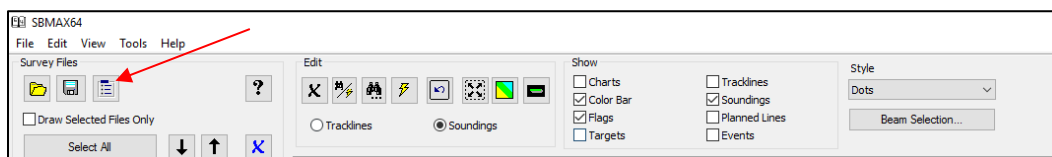
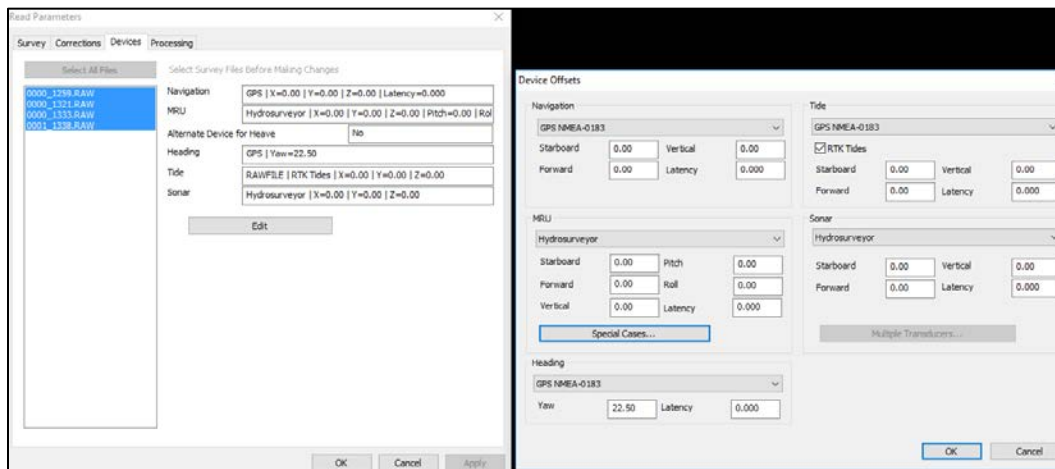
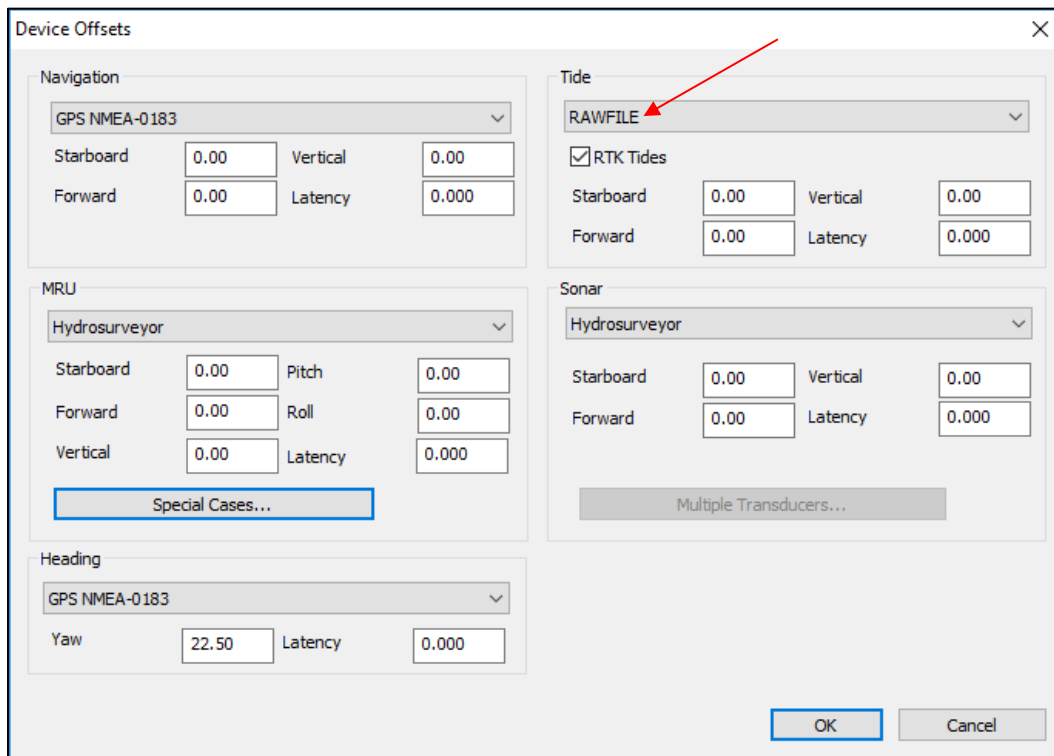

Figure 15.—Read Parameters icon (blue bullet list) in SBMAX64 main menu window.
Figure 18.—Device Offsets popup window via the Devices tab in the Read Parameters window.
Figure 20.—RAWFILE selection under Tide in the Device Offsets popup window.
In the SBMAX64 main menu window, click on the blue bullet list icon under Survey Files to access the Read Parameters window (figure 15).
- Under the **Devices** tab in the Read Parameters window, click “Edit.” In the Device Offsets popup window, set Navigation to the GPS device and both MRU and Sonar to the echosounder. Under Heading, input in combination of the SonTek M9 rotation and magnetic declination for the Yaw offset as discussed in the “SonTek M9 Device Setup” subsection previous to this. Under Tide, verify “RTK Tides” is checked. Click “OK” (figure 18).
At this juncture, go back into “Read Parameters” (figure 15). Under the Devices tab in the Read Parameters window, click “Edit” (figure 18). In the Device Offsets popup window, under Tide, the selection should now be “RAWFILE” and the “RTK Tides” box is still checked. Click “OK” (figure 20).